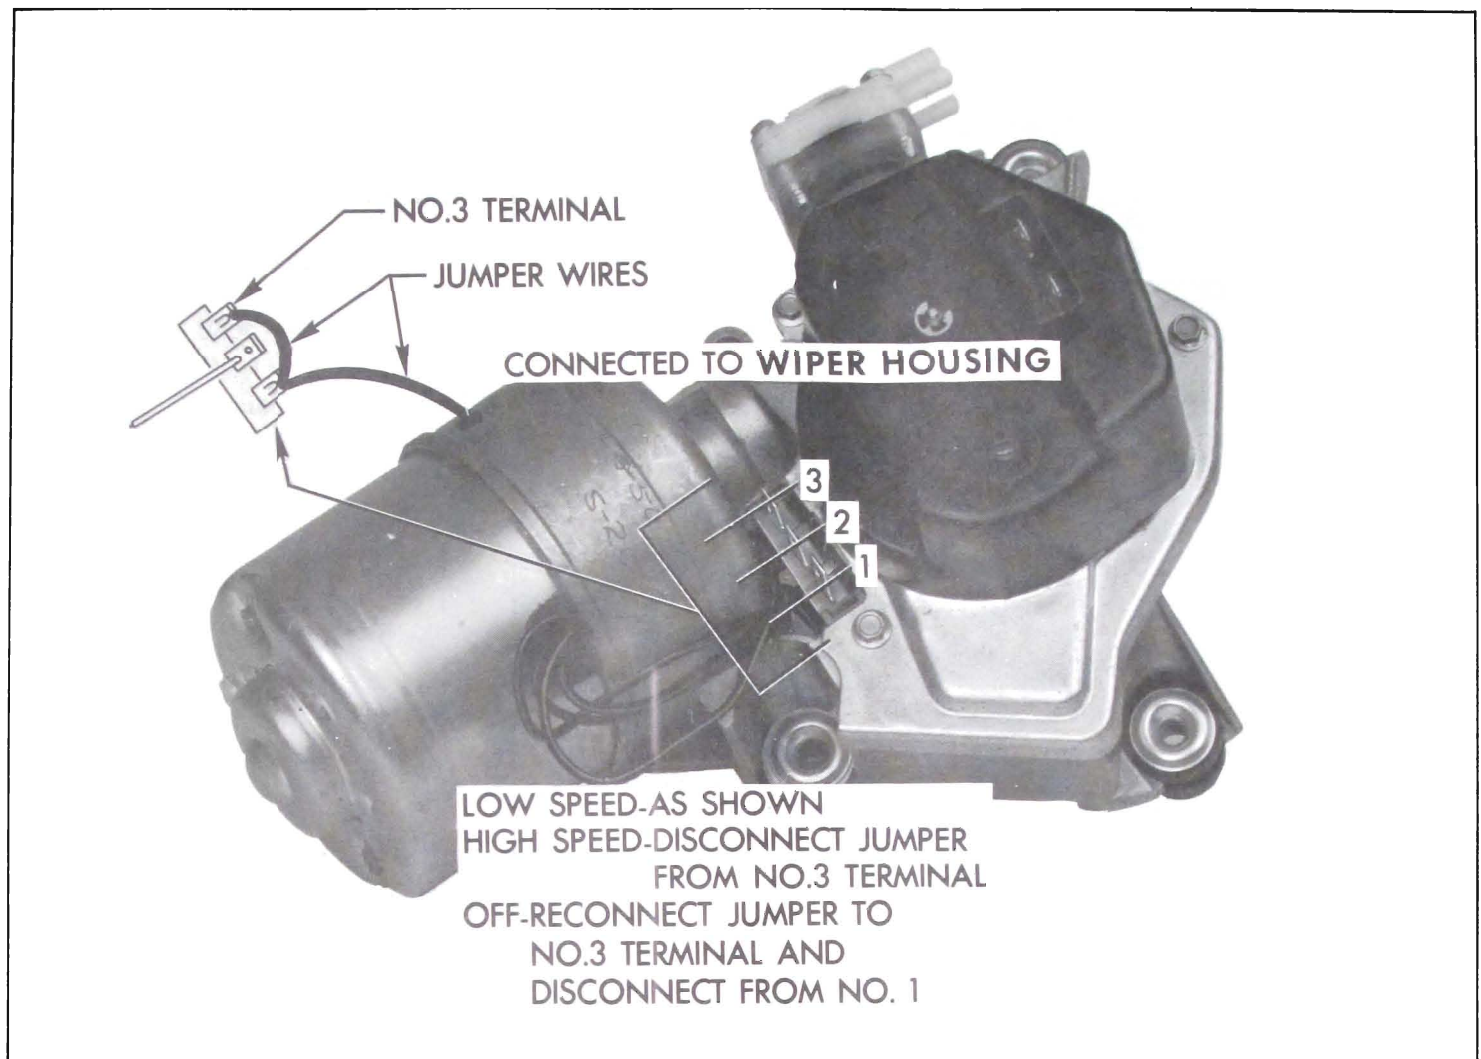

Figure 10-114—Connections to Operate Wiper Independent of Dash Switch
2. Checking Wiper Operation. Operate wiper independently of the car wiring or dash switch, as shown in Figure 10-114. Check low and high speeds and if wiper shuts off correctly.